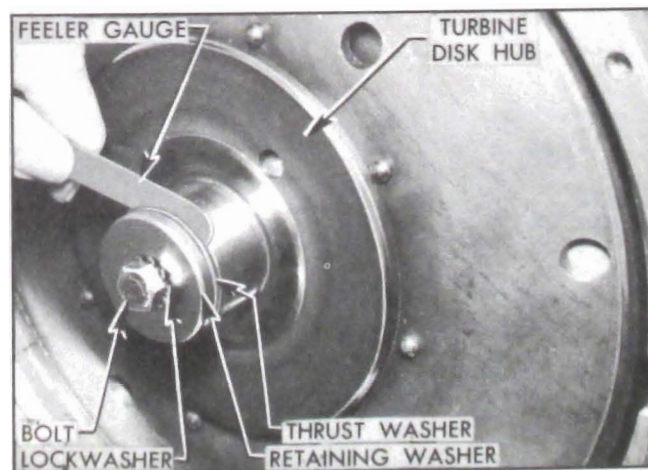

Figure 5-105—Checking Turbine Clearance
7. Use Sleeve KMO-30-K to mount Dial Indicator KMO-30-B on the adjustable post of clearance gauge so that indicator button bears squarely against the upper end of clearance gauge plunger. Set dial at zero. See figure 5-105.
15. Check clearance between selective thrust washer and first turbine hub, using feeler gauges. Clearance should be between .002" and .009". See figure 5-105.